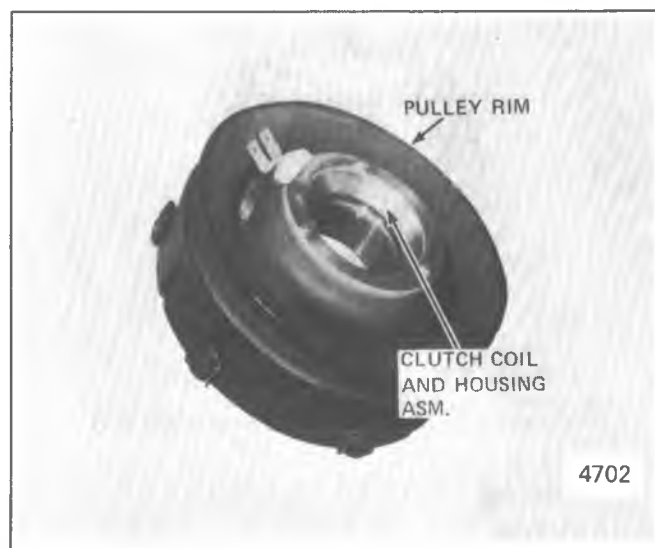

Figure 1D-90 Assembling R-4 Clutch Coil, Pulley Rim and Rotor and Bearing
4. Tighten the pulley rim mounting screws to 100 inch-pounds torque and lock the screw heads in place by bending lock washers (Figure 1D-88).